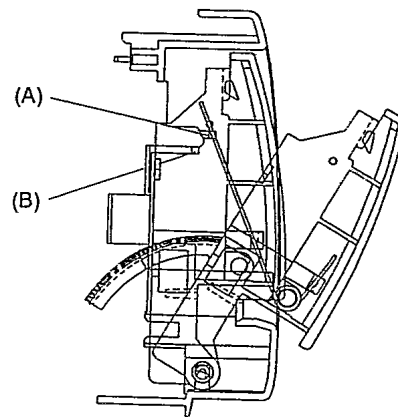

Fig. 5-1
Set the door spring of the DECK I side to position (A) as shown in Fig. 5-1 Then, erect the front panel assembly vertically. Open the doors of DECK I and DECK II at the same time. At this point, confirm that the difference between the door completely opened and the other door is within 15mm. If this standard is not satisfied install the door spring of DECK I at another position and adjust as follows: